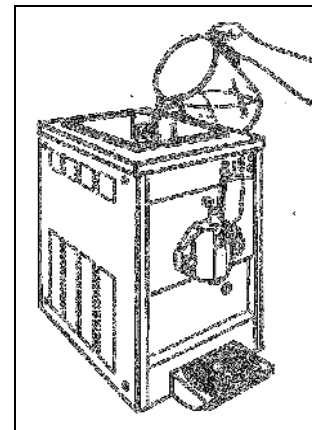

Fig. 12
- Fill the top tank with hot water (fig. 12) and wait a few minutes.